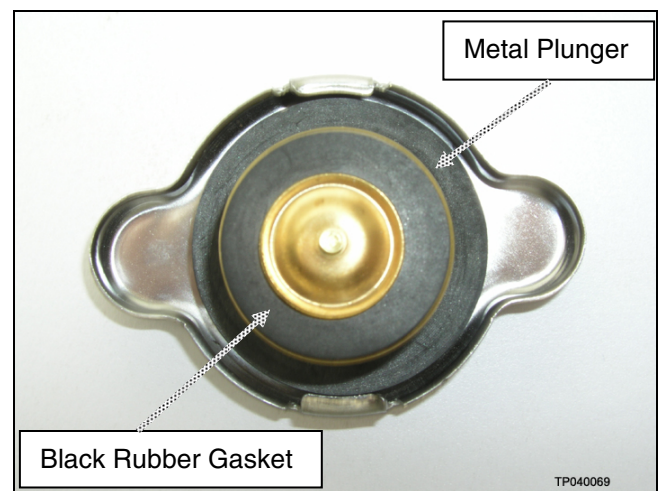

Figure A1
- A. The Black Rubber Gasket should be *smaller in diameter* than the Metal Plunger under it (see Figure A1).